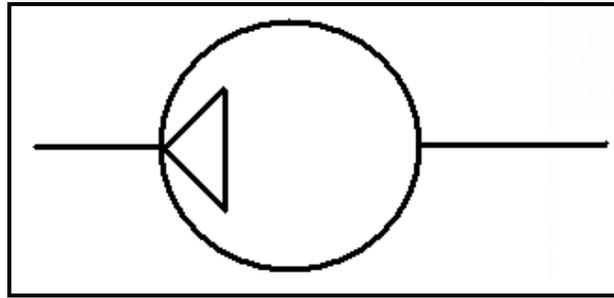

FIGURE 1.3
- D T-slot cutter (1)
- 1.8 What does the symbol in FIGURE 1.3, relating to a pneumatic system, indicate?